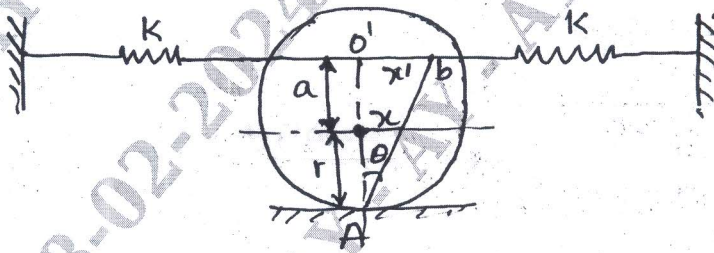

Fig.Q3(a) (08 Marks)
- Determine the natural frequency of the system shown in Fig.Q3(a) by energy method.